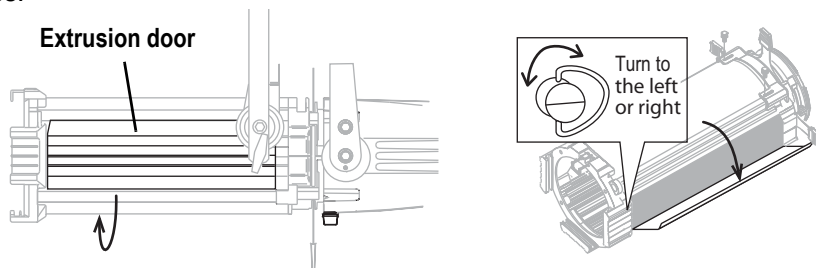

Figure 14
**Note:** *To clean the 15°-30° Zoom, rotate the lens tube to its limit in one direction (approximately 25°) so the extrusion door will clear the balance yoke. See Figure 14.*